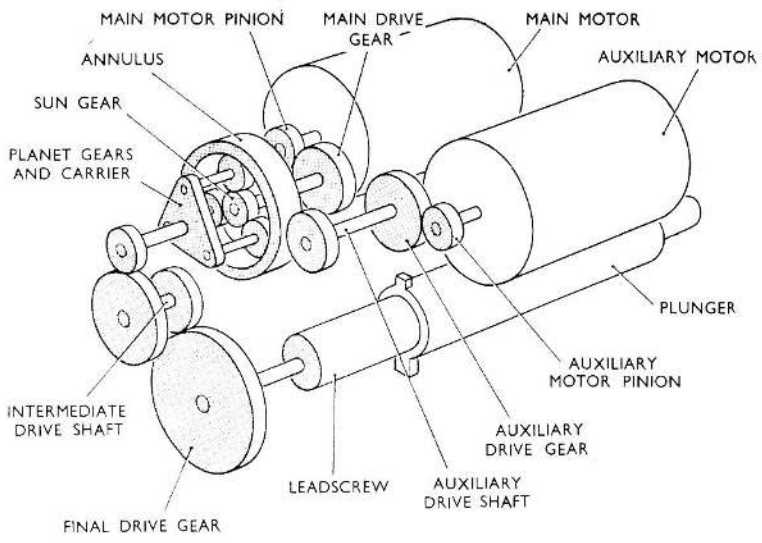

Fig. 3. Reduction gear trains
7. The gear trains (fig. 3) consist of two spur gear reduction trains (main and auxiliary), an intermediate epicyclic type differential stage and a final spur gear train, arranged to give a ratio of 32:1 between either motor and the final drive.